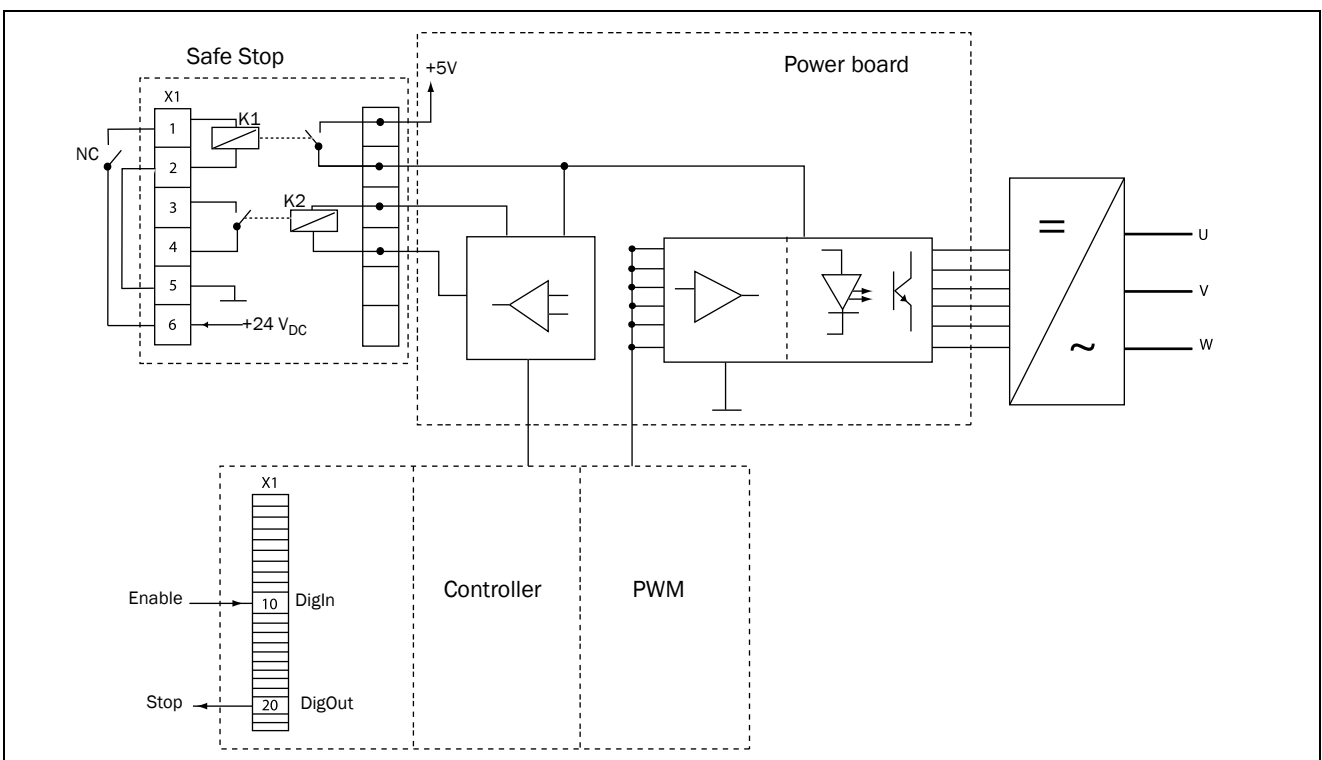

Fig. 137 Safe Stop connection
- "Inhibit" input, terminals 1 (DC+) and 2 (DC-) on the Safe Stop option board should be made active by connecting 24 V_{DC} to secure the supply voltage for the driver circuits of the power conductors via safety relay K1. See also Fig. 137.
- High signal on the digital input, e.g. terminal 10 in Fig. 137, which is set to "Enable". For setting the digital input please refer to section 11.5.2, page 148.
terminal 20 in the example Fig. 137, please refer to section 11.5.4, page 154 [540].